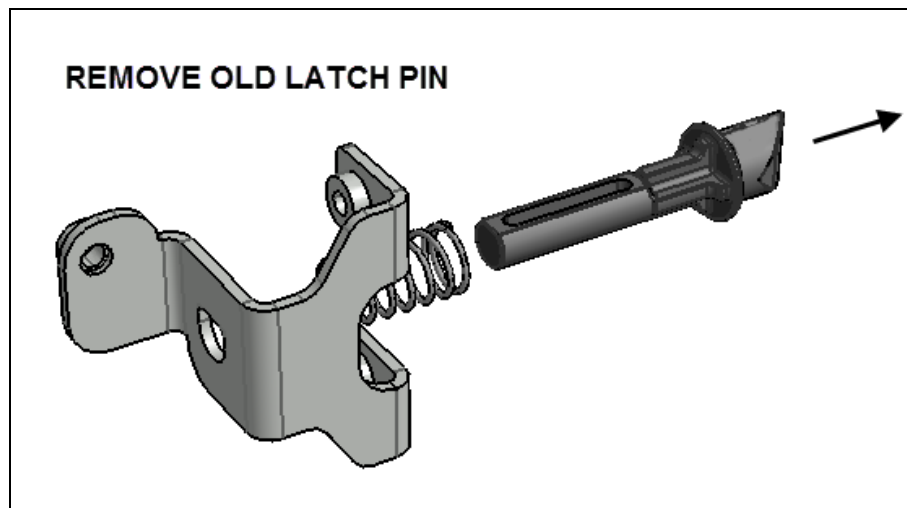

FIG.22 REMOVING OLD LATCH PIN
20. Remove and discard the latch pin (spring will be reused) (Fig.22)